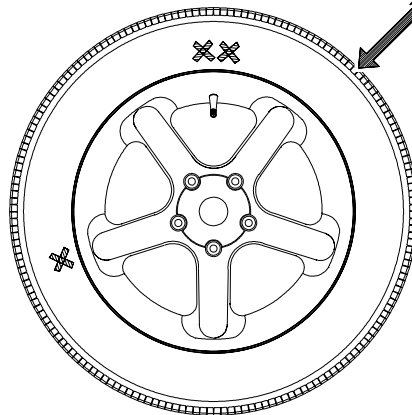

Figure 29
1. The machine displays "VAL tOP". Turn the wheel so the valve is at top position. (12 o'clock) and then press P button. The machine stores the valve position. See Figure 29.